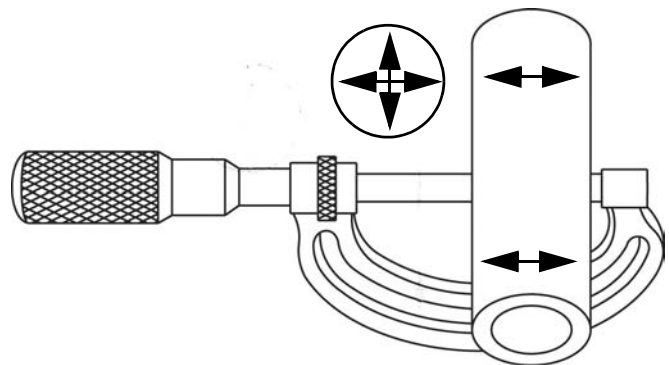

Fig. 36
1. Check piston pin in two directions as shown in figure 36. Replace pin if diameter is less than .4993 in. (12.68mm).